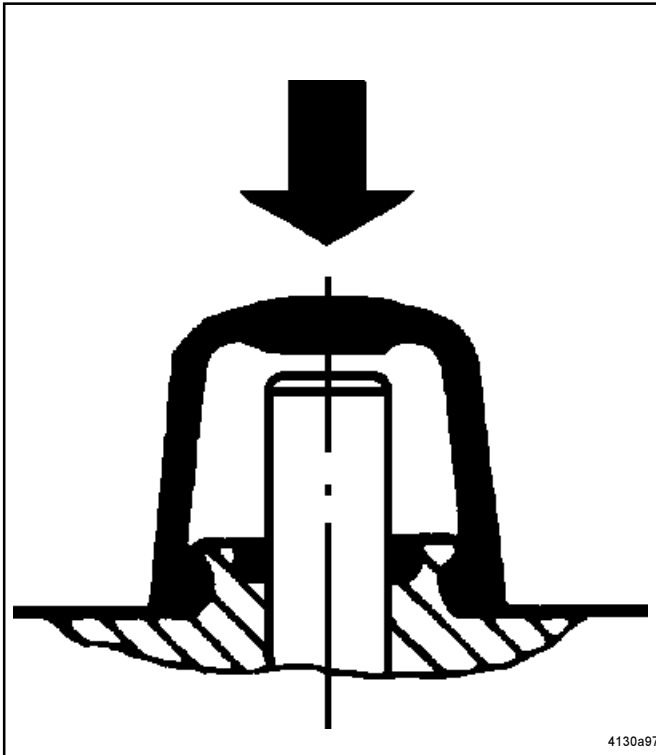

Fig. 5 - Manual Emergency button: Press on the Magnetic pin
- * Manual emergency button: For checking the valve, press on the magnetic pin (standing out under the rubber cap, see fig. 5). This will release a manual impulsion.